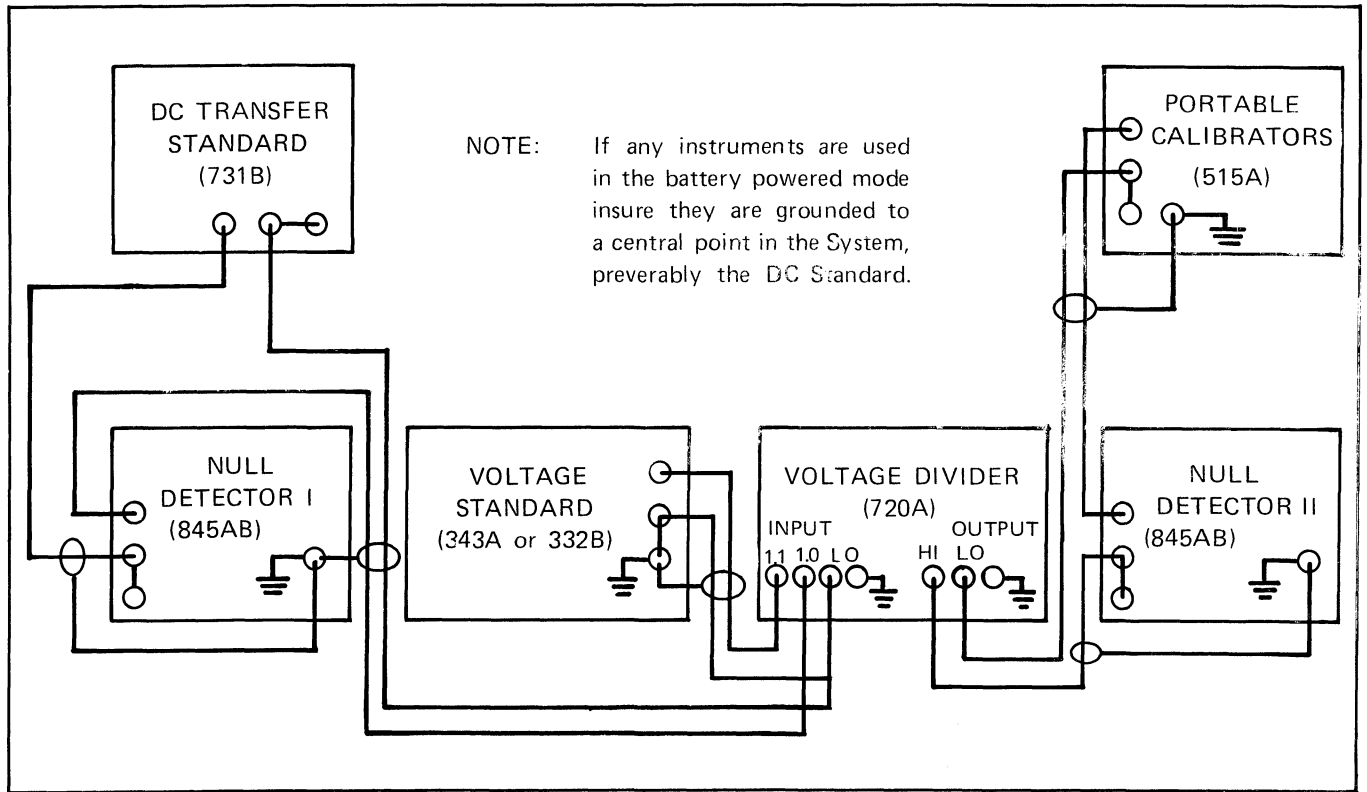

Figure 4-6. 10 VDC AND LESS TESTING.
- a. Connect the equipment as shown in Figure 4-6. Insure the self-cal test for the Voltage Divider and calibration of the DC Transfer Standard against a standard cell is performed the same day, and prior to, the performance test. Zero the Null Detectors prior to starting the test.
- o. Reconnect the Portable Calibrators leads as shown in Figure 4-6.